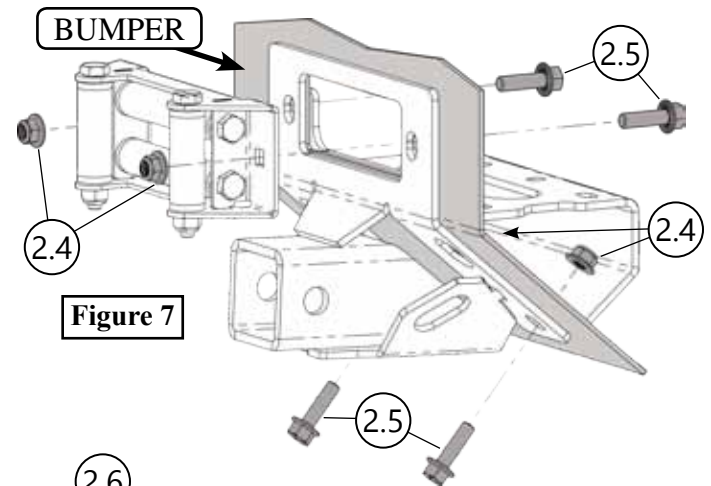

Figure 7
3. WIDE WINCH: Install upper bolts (2.5) from the backside. Go through winch mount, bumper, receiver, fairlead, and secure with nuts (2.4). See **Figure 7**.